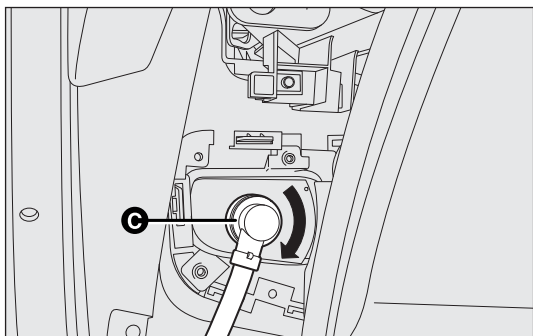

fig. 170
- remove the bulb holder cover C-fig. 170 by turning it anti-clockwise;
- refit the bulb holder cover C-fig. 170 by turning it clockwise and locking it properly;